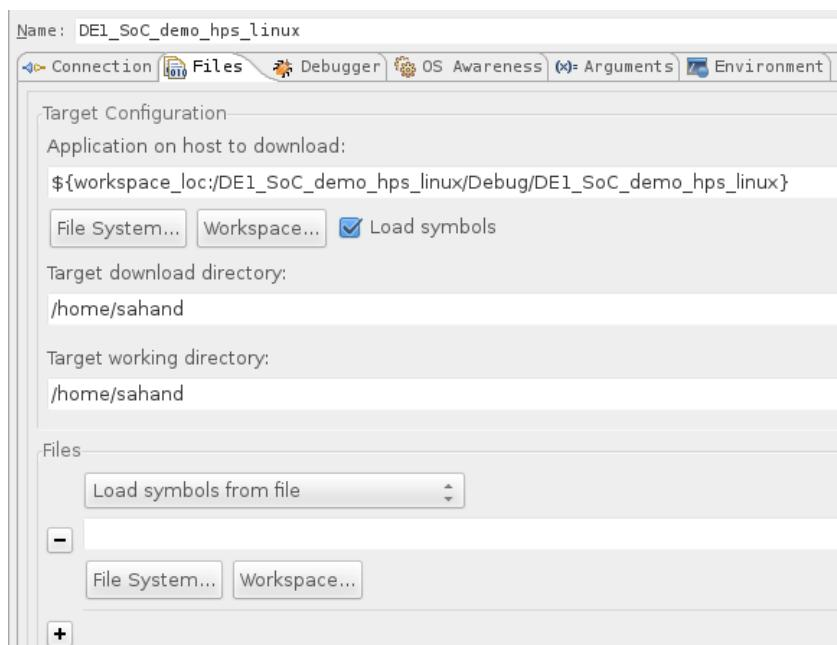

Figure 13-15. Debug Configuration "Files" Tab
- Set the "Target working directory" to your user directory. In my case it is "/home/sahand". You should have something similar to Figure 13-15.